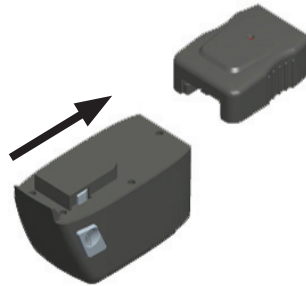

Figure 4 - Remove Charger
4. Unplug charger. Remove the charger by sliding off (See Figure 4).